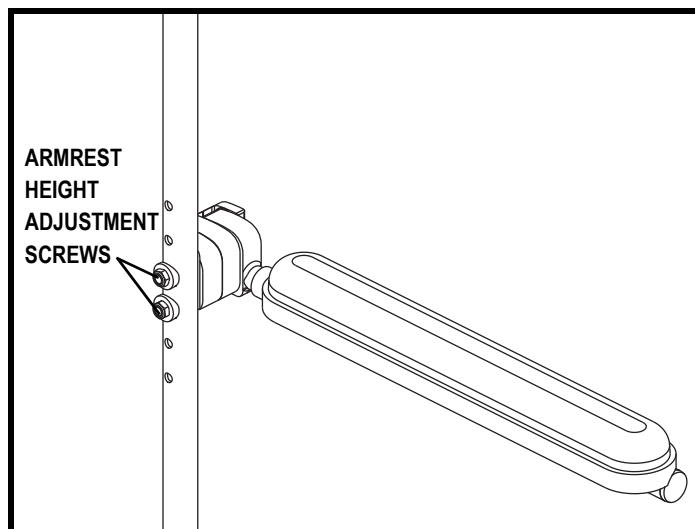

Figure 34. Flip-up Armrest Height Adjustment
1. Remove the armrest height adjustment screws. See figure 34.